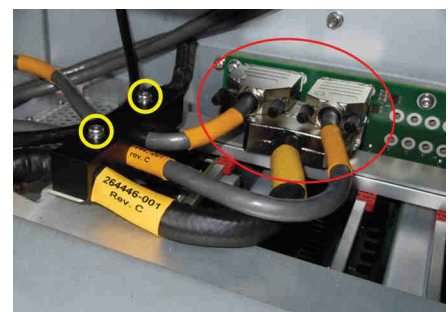

Fig. 7.32 Support, connectors
- 10 Take out the Crate Assy. Remove the cable support using Torx T20 screwdriver (tools 1/8) to remove two screws as indicated with yellow circles in Fig. 7.32 (p. 135). Disconnect the three connectors within the red ellipse in Fig. 7.32 (p. 135) and remove the three cables. Re-establish the cable support without cables going through it.
- 11 Connect the three cables on the new Crate Assy and fix them with the cable support (Fig. 7.32 (p. 135)). Place the new Crate Assy in RxTx.